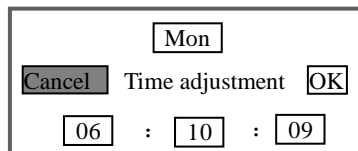

Fig. 9: Time Adjustment Interface
6. Select the “Time Adjustment” option in the “Operation setup” interface, press the "OK" key to access the "Copy Timing" interface, press the “◀” or “▶” key to move the cursor, press the “▲” or “▼” to adjust the setup, and press the “Ok” key for confirmation, As shown in figure 9: